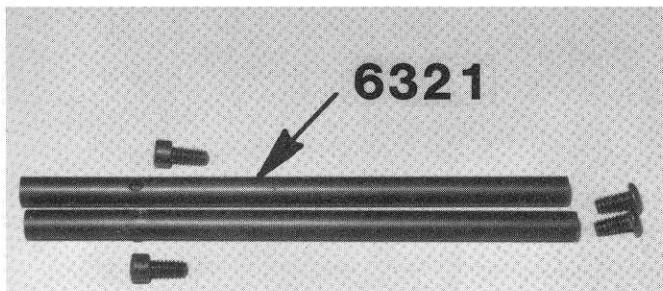

Fig. 111
□ **Fig. 111** In Bag #6-4 are the two #6321 nose brace tubes and 4 Allen button head screws, as shown.